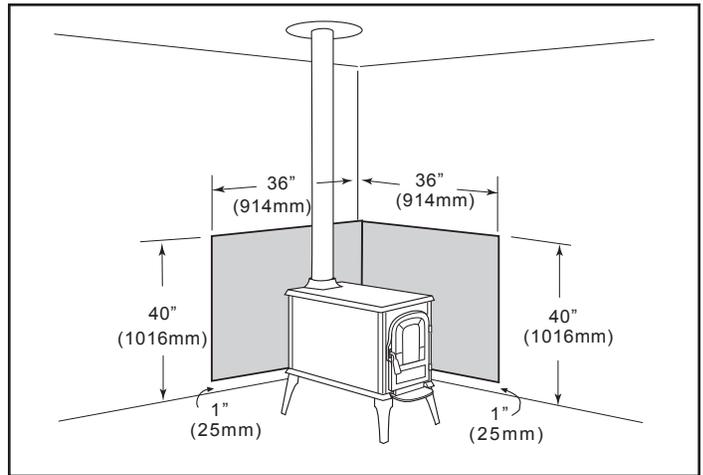

Figure 4.5 - Parallel installation, vertical chimney connector, two wall shields.
**Parallel installation, vertical chimney connector, two wall shields.** Figure 4.5: Reduced clearances for both rear and side walls. Wall shields may meet at corner if desired. Shielding for connector is centered behind connector.